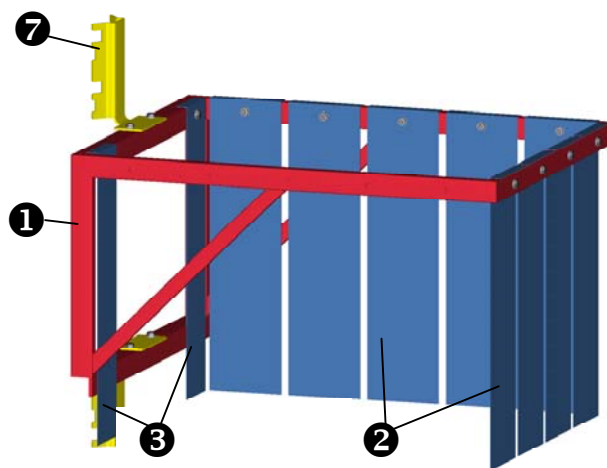

Fig. 1
2. Screw Lamella **2** and **3** to the frame **1** acc. to figures 1 and 2 with mounting material **4 5 6**
3. Screw both mounting angles **7** (from the mounting sets 506614 / 506971) to the frame each above and below acc. to figure 1 with their mounting materials.